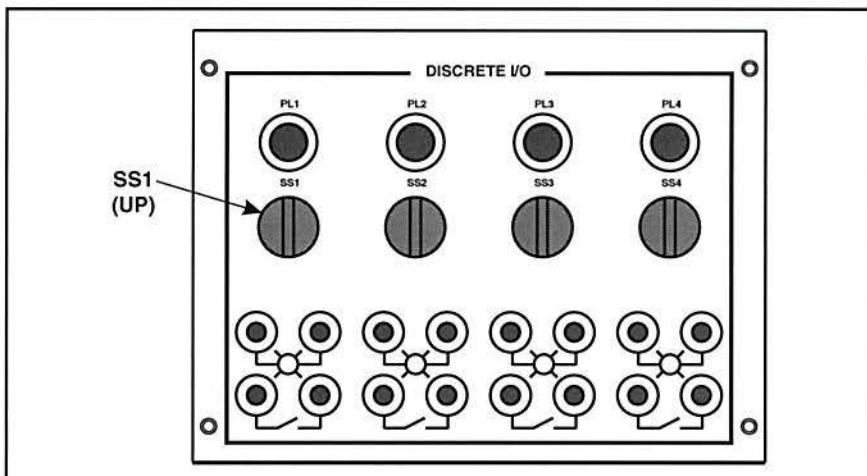

Figure 51. Selector Switch in OFF Position
- D. Make sure the selector switch SS1 is in the **OFF** position (up), as shown in figure 51.